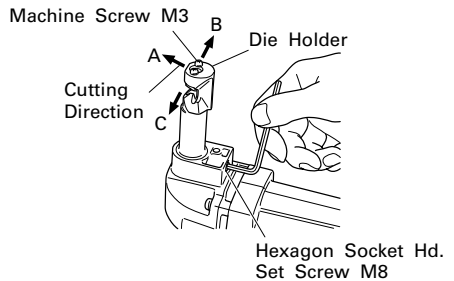
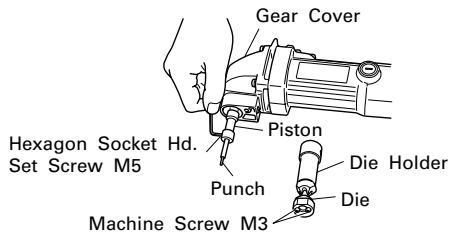
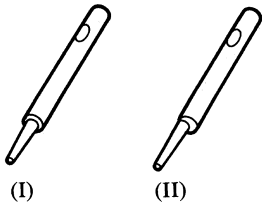

Fig. 1
Fig. 2
Fig. 4
Inspect for looseness of the M8 hexagon socket set screw used for mounting the die holder, the M3 machine screws used for mounting the die (see Fig. 1) and the M5 hexagon socket set screws used for mounting the punch (see Fig. 2). Caution should be exercised because, if any of these screws are
- The cutting directions of Punch shape (I) (see Fig. 4) are in the 3 directions of A, B and C (see Fig. 1) and these directions can be changed, but punch shape (II) can be cut in direction B only.
- (1) The cutting direction of this machine can be rotated in 90° increments in 3 directions (A, B and C) (see Fig. 1) by loosening the M8 hexagon socket set screw mounting the die holder. Set the cutting direction in the B or C direction to cut trapezoidal plates. After that, securely tighten the M8 hexagon socket set screw.
2. Punch and die replacement (see Fig. 2)
(1) Punch replacement
- (a) Loosen the M8 hexagon socket set screw mounting the die holder (see **Fig. 1**) and remove the die holder.